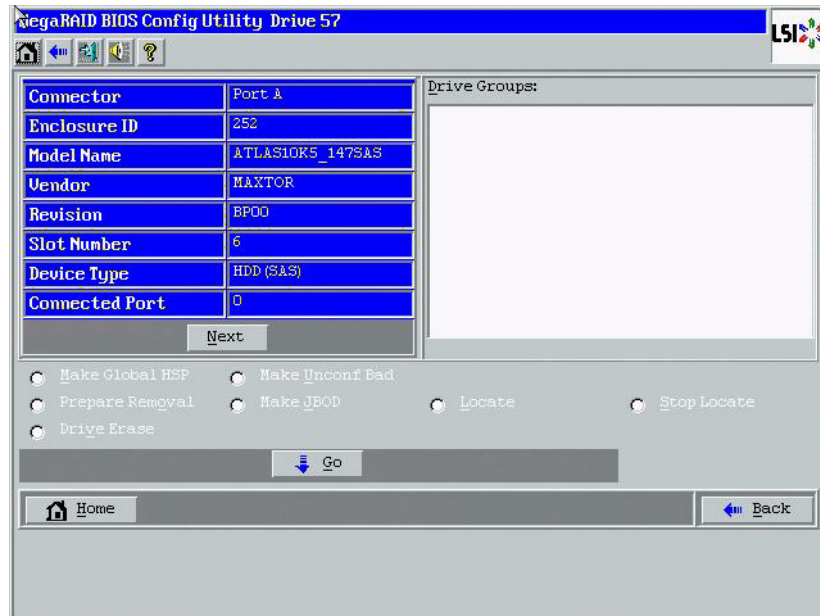

Figure 139: Physical Drive Dialog
3. Select the **Drive Erase** radio button, as shown in Figure 139 and click on **Go**.